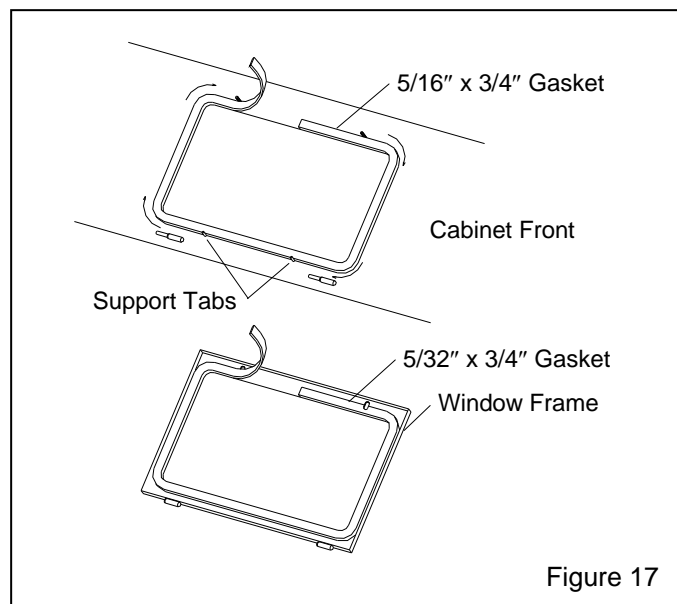

Figure 17
#### 7.4 Window Gasket Replacement, Figure 17
**7.4.4** Peel a short section of adhesive backing from the 5/16"-thick strip gasket, and adhere the gasket to the center of the top edge of the window opening as shown in Figure 17. Peel additional backing as needed, and work the strip around the radius of each corner, pressing it firmly to bond. Trim the gasket to fit and compress the ends to seal.